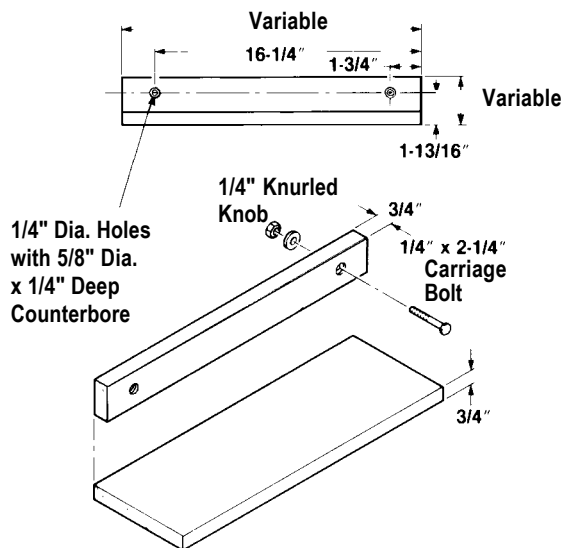

Figure C-28
2. If you're going to drill through the stock, protect the table and the rip fence with scrap wood. If you perform this operation often, you may want to make a V-support by gluing two scrap boards together, then bolt one side of the support to the rip fence. See Figure C-28.